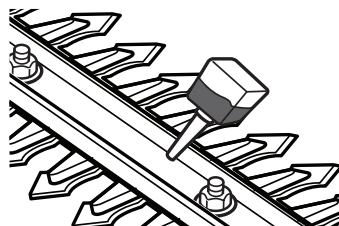

Fig. 24
- > Keep the cutting device (1) clean and free of debris. Remove trimmings.
- > Apply a small amount of suitable lubricant on the cutting device (1) to retain a good cutting performance (Fig. 24).